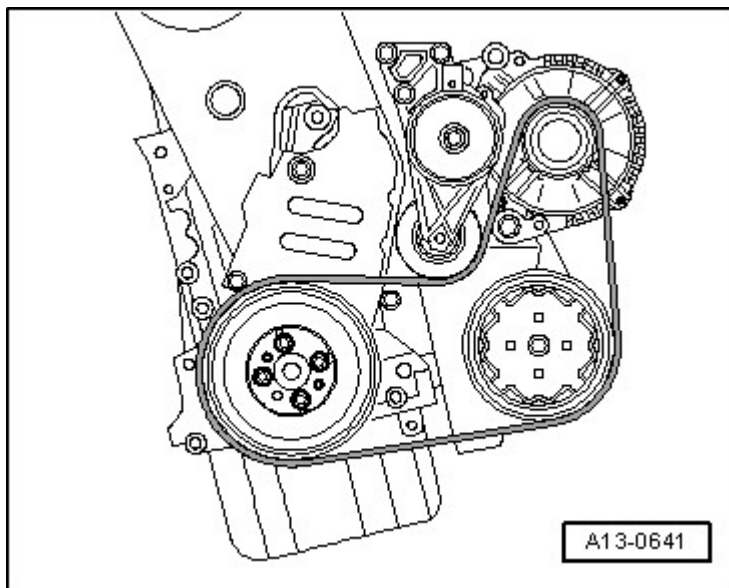

Fig. 2: Identifying Ribbed Belt Routing
- Ribbed belt routing, refer to **Fig. 2**